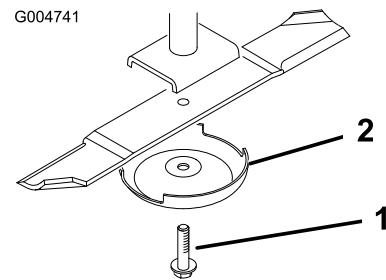

Figure 84
2. Grasp the end of the blade using a rag or thickly padded glove. Remove the blade bolt, anti-scalp cup, and blade from the spindle shaft (Figure 84).